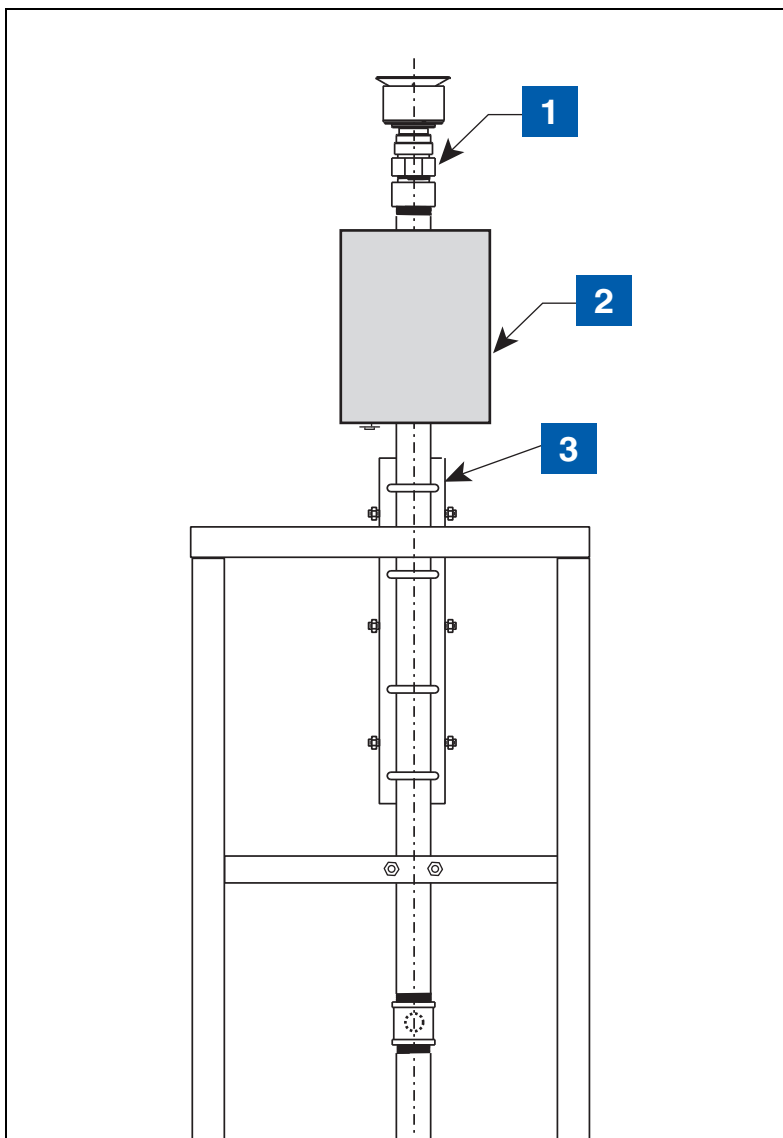

Figure 26. Example CCVP iNstallation Bracket And Universal Enclosure On Vent Stack
2. A Transmitter/battery pack pair must be installed with the Veeder-Root Carbon Canister Vapor Polisher (CCVP) in the Universal Enclosure mounted on the vent stack (see Figure 26).
LEGEND FOR NUMBERED BOXES IN Figure 26